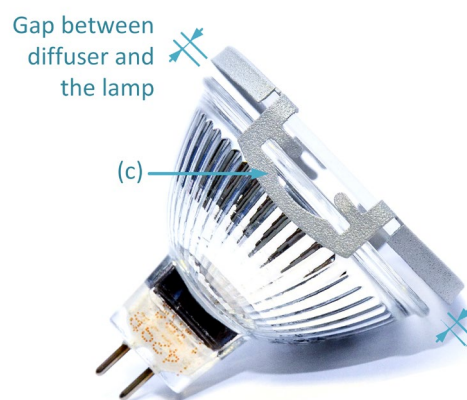

Figure 27 Mounting diffuser on the lamp (Step 4.3c)
- c. Press the diffuser on to the lamp such that the top edge of the lamp gets locked in to the clip of the diffuser, as shown in Figure 27.